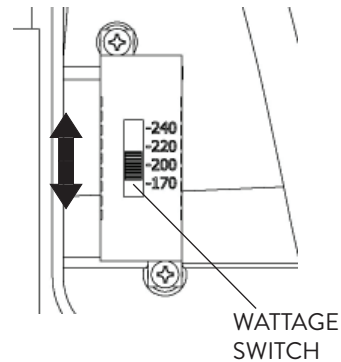

FIG. 2
② The Lumen output of the FALC/2 fixture can be adjusted simply by moving the Switch to the desired Wattage (Fig. 2).